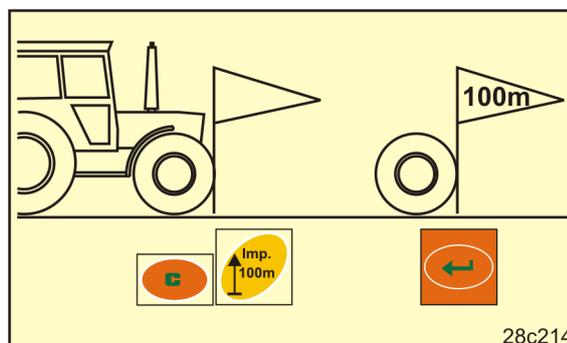

Fig. 26
2. Move tractor to starting position (Fig. 26) and seed drill to working position (if necessary, interrupt seed metering).